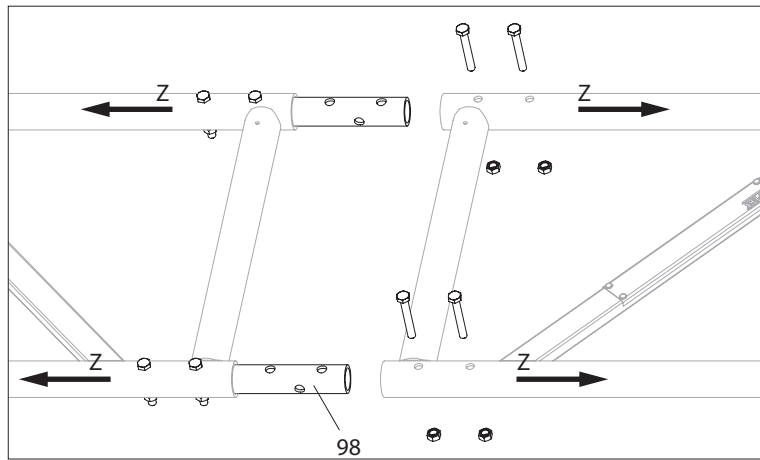

Fig. A11.12a
1. Insert two Connectors ULT (98) into lattice girders and mount each with 2 screws M10 x 70-8.8 with nut.
2. Fit the second lattice girder onto the Connectors ULT and mount each with 2 screws M10 x 70-8.8 with nut. (Fig. A11.12a)